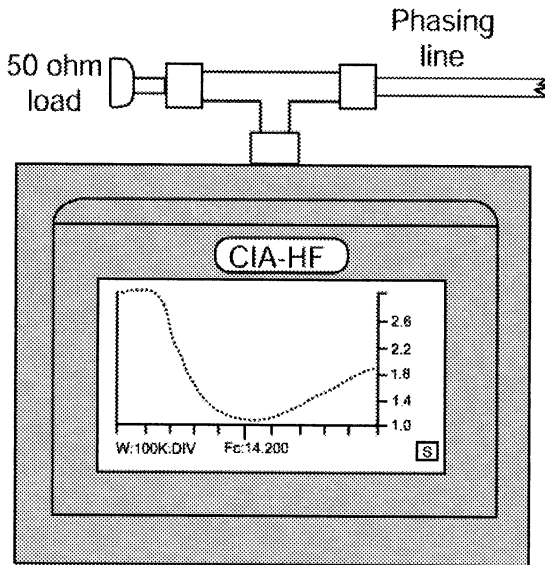

FIGURE 2. T Connector
4. Attach the "PL-259" connector to a "T" connector already attached to the antenna connector. Attach a 50-ohm load to the other end of the "T" connector (Figure 2).